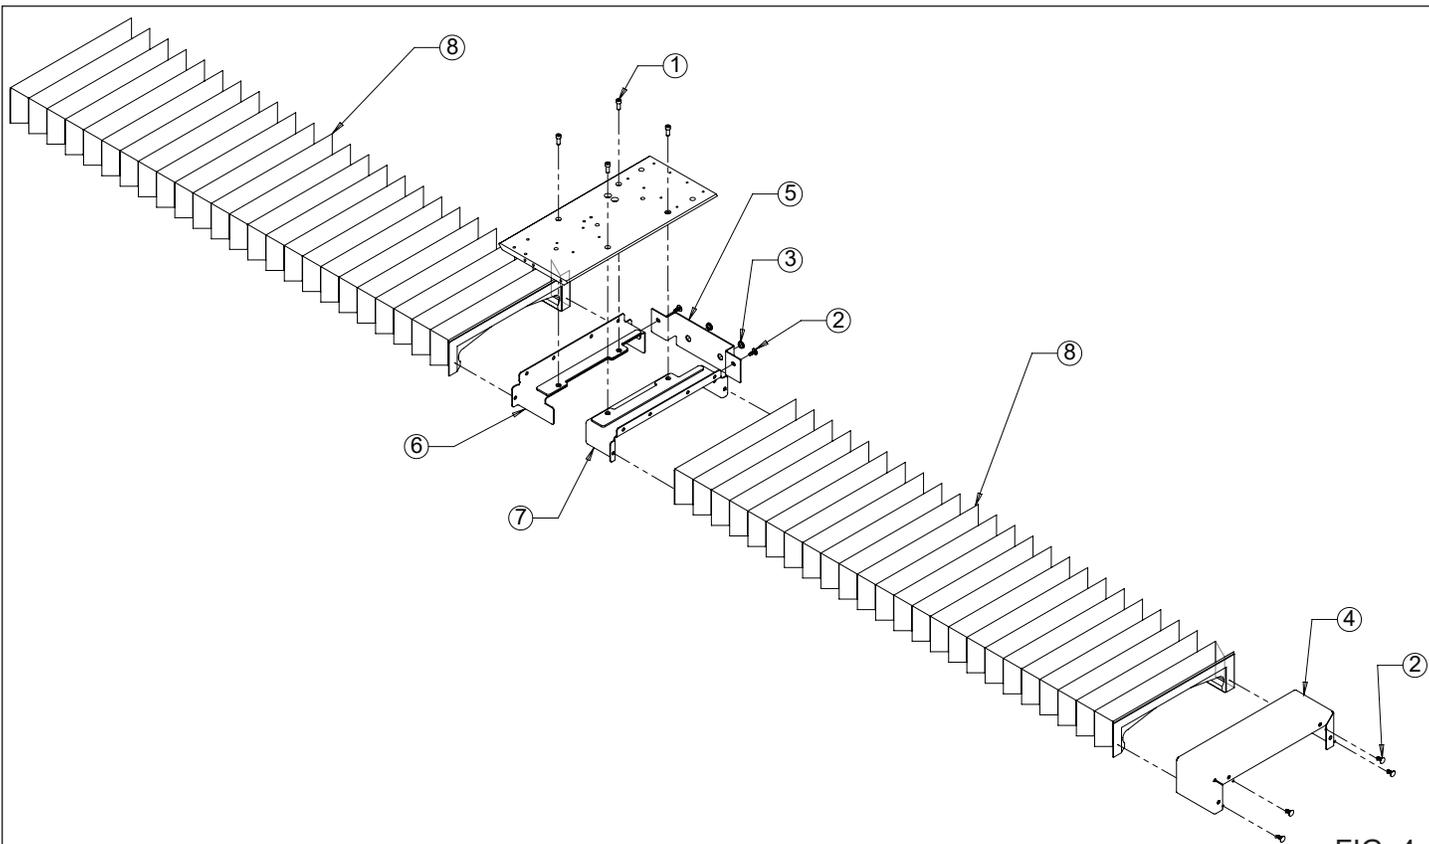

FIG. 4
2. Attach the Bellows End Bracket to the right leg of the grinder assembly (see Figure 4) using the four Push-in Rivets (part number 3706249).